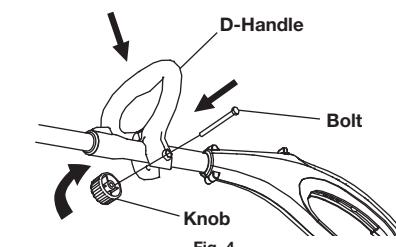

Fig. 4
2. Push the D-handle down onto the upper shaft (Fig. 4). Some force is required. The hex bolt hole in the handle should be on the left side.
3. Insert the bolt into the hex hole in the handle and push it through (Fig. 4). Screw the knob onto the bolt. Do not tighten the knob completely.